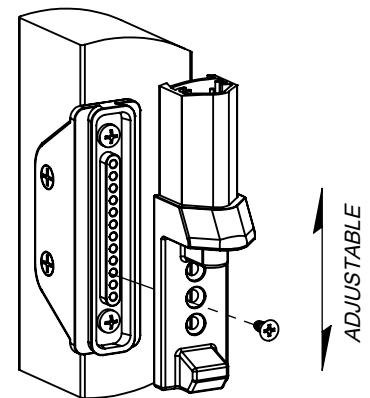

FIGURE 3
2) Temporarily insert the Bottom Bracket and align the holes with the (3) countersunk holes at the bottom of the Main Body (Figure 3). With the latch at the proper height, mark the location on the post.
3) Remove the main body and attach the lower bracket with the supplied mounting screws ((2) flat head screws and (2) pan head screws).
2) Align the holes of the Latch and the Bottom Bracket, making sure that the overall latch height is maintained, and secure with (1) #8 flat head screw (Figure 3).
STEP 5: Install Keeper. With gate closed, position keeper and align with Main Latch Body. Secure Keeper to gate with (4) pan head screws.